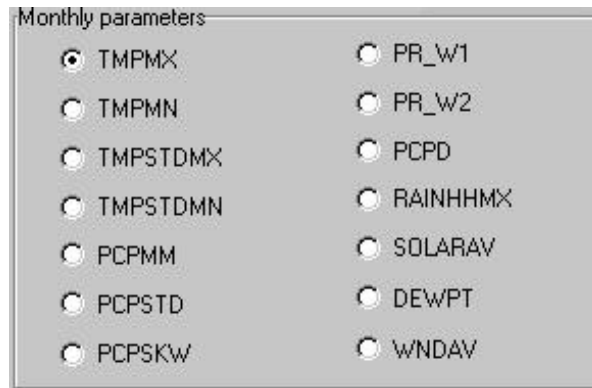

Figure 14.17
- d. The data fields for the monthly parameters can be accessed by clicking the circle to the left of the variable names (Figure 14.17).